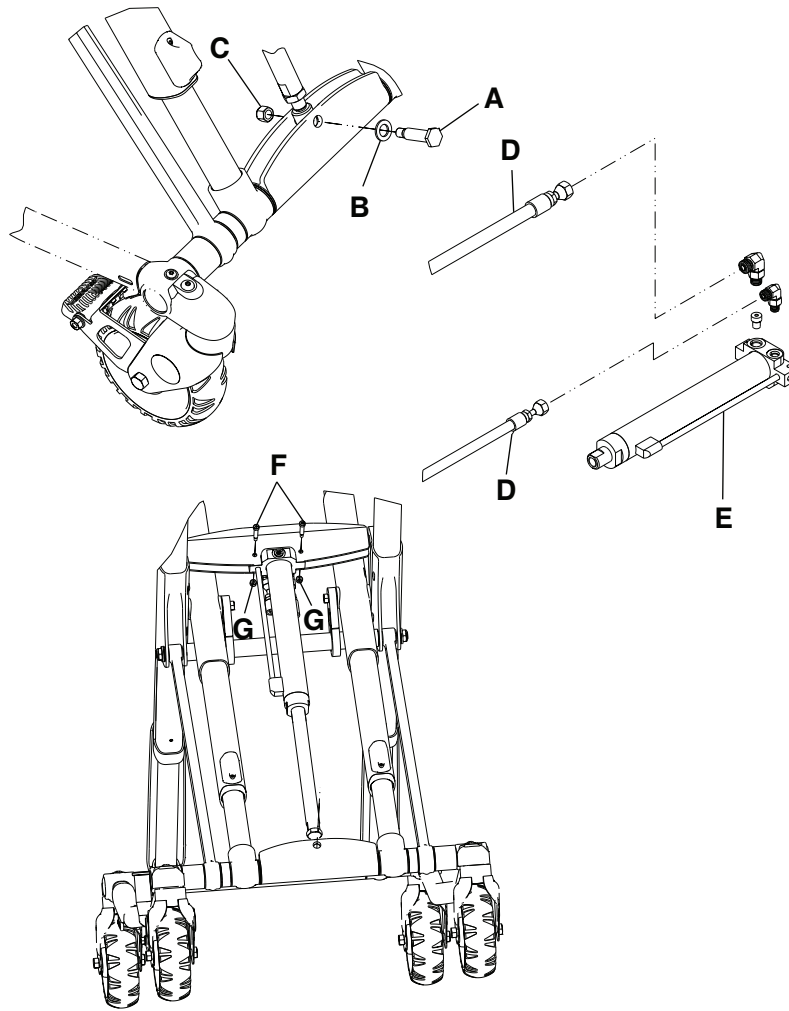

Figure 17 – Hydraulic cylinder replacement
3. Using a 3/4" and 9/16" combination wrench, remove the rod attachment pin (A), washer (B), and Nylock hex nut (C) that secure the hydraulic cylinder to the base (Figure 17). Save all parts.
5. Using an 11/16" combination wrench and a 13/16" combination wrench, remove both hoses (D) from the hydraulic cylinder (E) (Figure 17).
7. Using a 1/8" hex wrench and 3/8" combination wrench, remove the two socket head set screws (F) and Fiberlock hex nuts (G) that secure the hydraulic cylinder to the base (Figure 17). Save the nuts and screws.